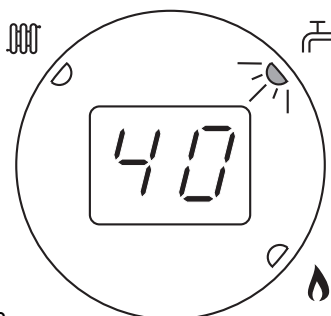

Fig. 68c
6. During the pre-heat period the domestic hot water indicator will flash (Fig. 68c).